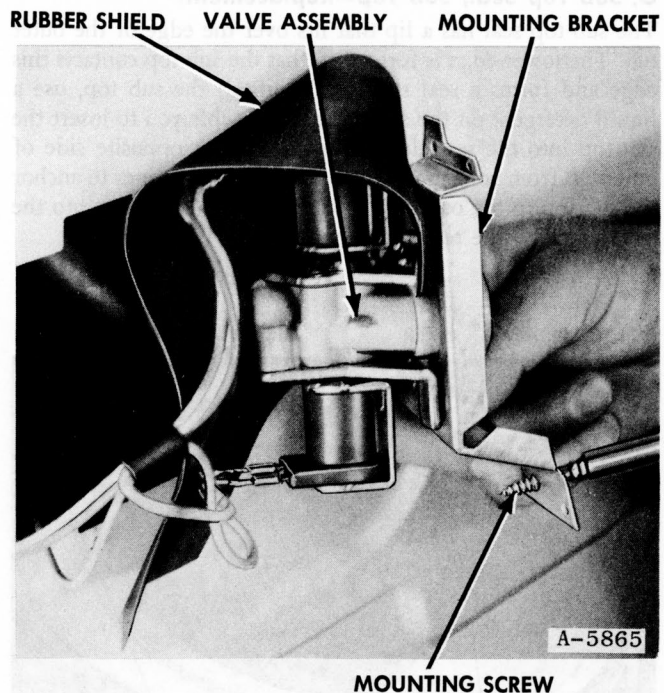

Figure 62
1. To remove the valve from the washer, remove the screw from the lower edge of bracket. Figure 62.